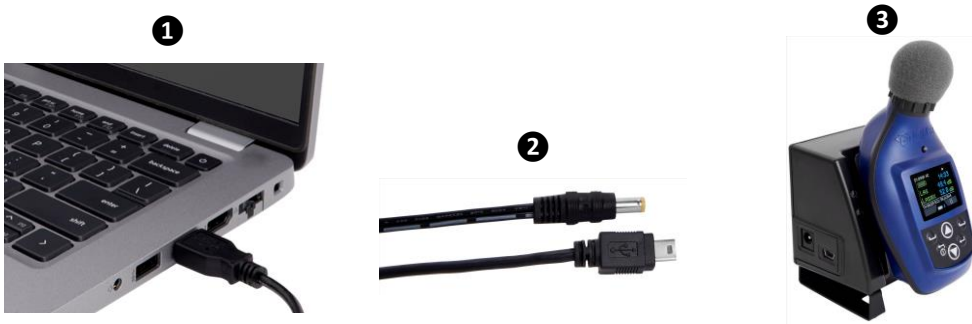

Figure 3-4: Communicating—connecting a docked Edge to a PC
2. Plug the USB cable into the computer (see **1** in Figure 3-4).